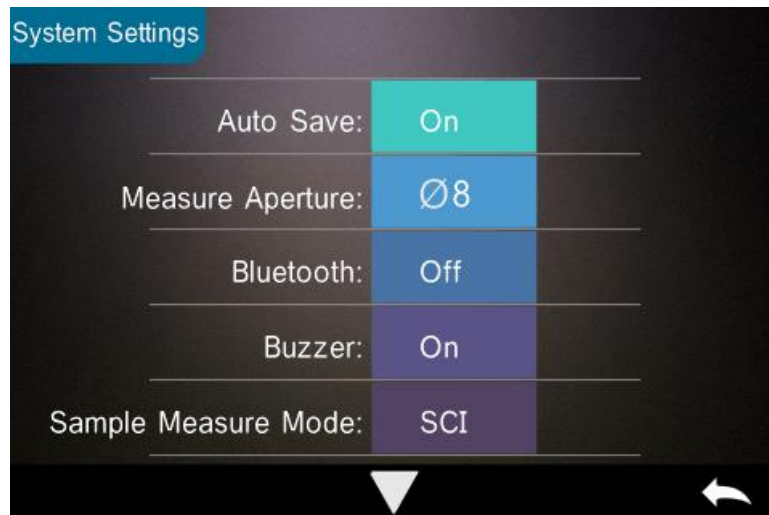
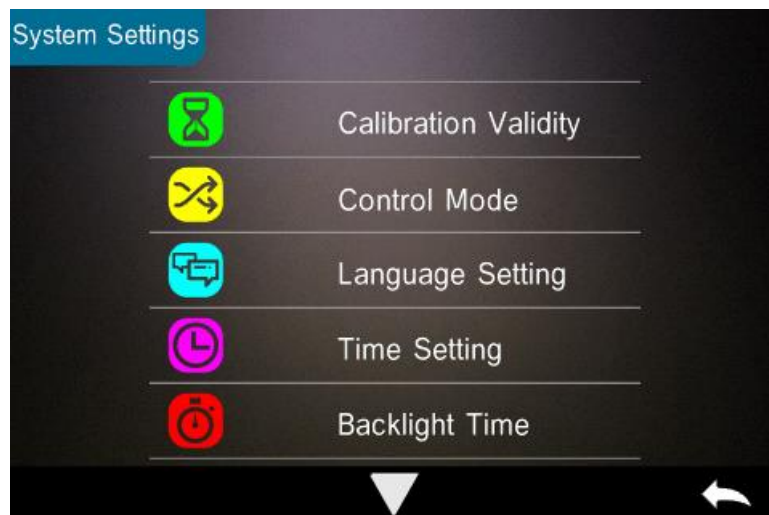
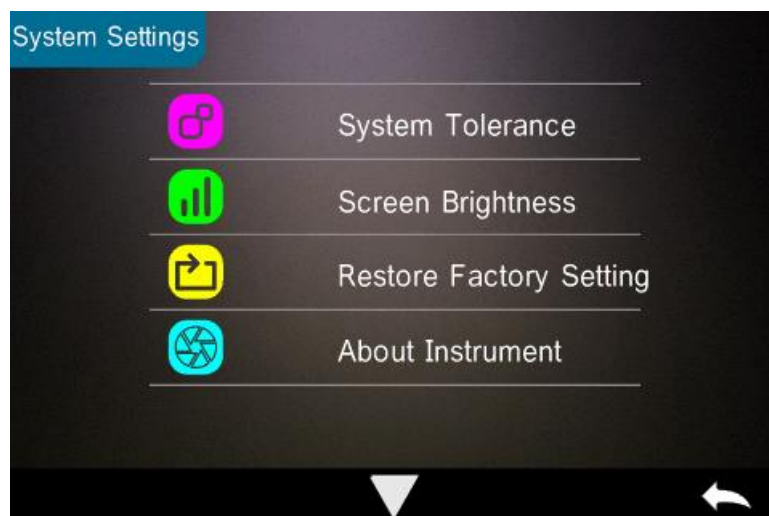

Figure 44 System Settings
Figure 45 System Settings
Figure 46 System Settings
In the main menu, click “System Setting” as shown in Figure 44, Figure 45 and Figure 46.
Step 3: Switch the default system measurement aperture to correspond with the actual measurement aperture. As shown in Figure 44, the current measurement aperture is  $\Phi 8$ mm. After switching the measurement aperture, you have to re-calibrate the instrument according to part 2.2.